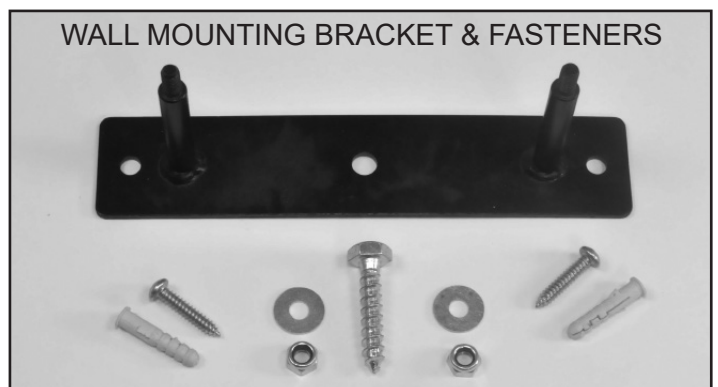

FIG. 11
3. The plate's outer 2 holes are for the Phillips Screws (#37), the center hole for the large Hex Screw (#36). Figure 11.